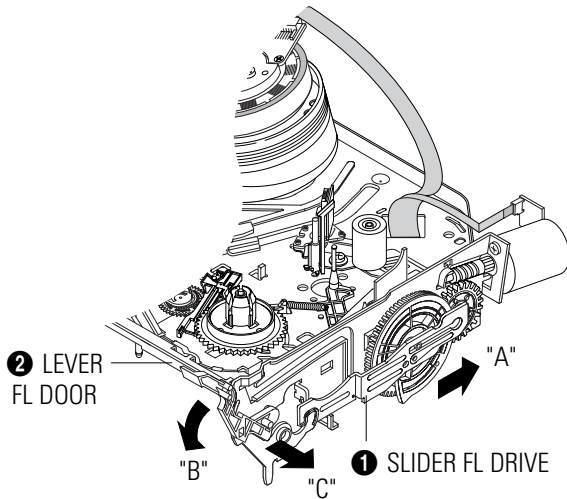

Fig. 5-13 Lever Door Removal
- 1) Pull the Slider FL Drive ❶ to the front direction.
- 2) Remove the Slider FL Drive ❶ in the direction of arrow. (Refer to Fig. 5-13)
- 3) Remove the Gear FL cam ❷.